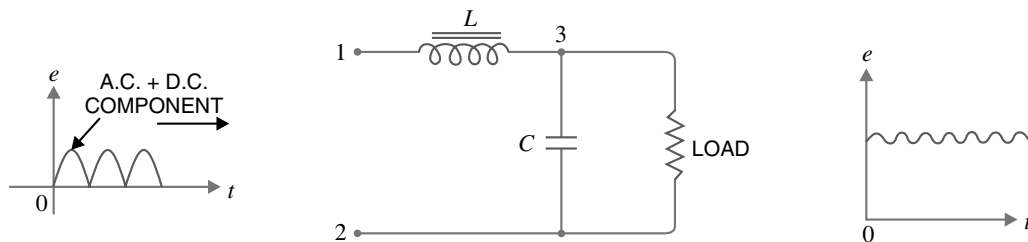

Fig. 4.51
**(ii) Choke input filter.** Fig. 4.51 shows a typical choke input filter circuit. It consists of a \*choke  $L$  connected in series with the rectifier output and a filter capacitor  $C$  across the load. Only a single filter section is shown, but several identical sections are often used to reduce the pulsations as effectively as possible.